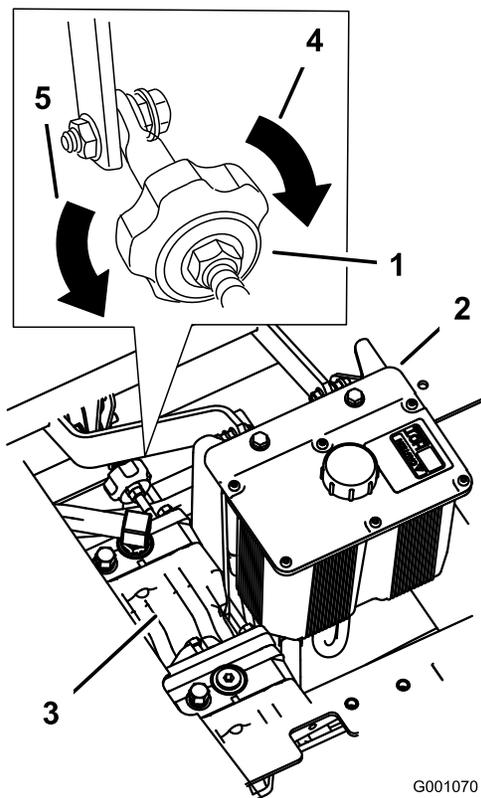

Figure 71
2. Adjust the pump rod length by rotating the knob, in the appropriate direction, until the wheel is still or slightly creeping in reverse (Figure 71).